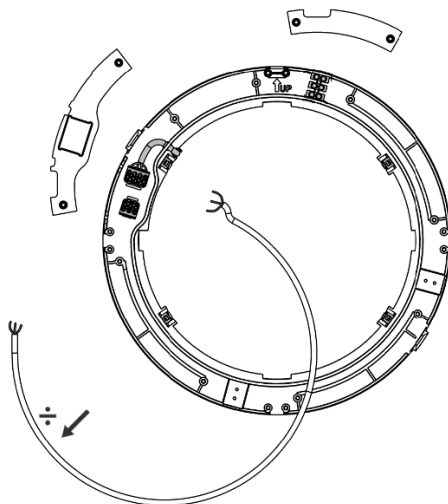

Figure 37 - Remove the internal cable
1. Detach the covers at the top and to the left, and remove the internal cable, see Figure 37 below.